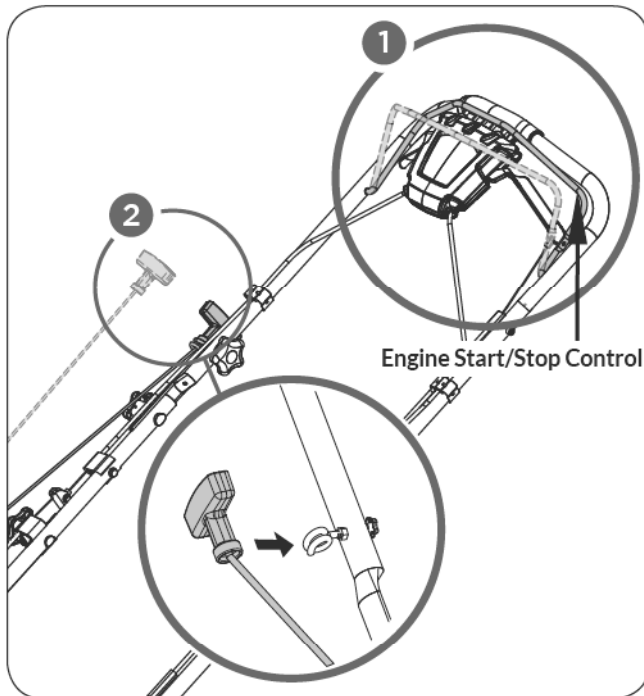

Figure 5
1. Hold the engine start/stop control lever against the upper handle. (See **Figure 5, Illustration 1**)
2. Slowly pull the starter rope handle from the engine and slip the starter rope into the rope guide. (See **Figure 5, Illustration 2**)